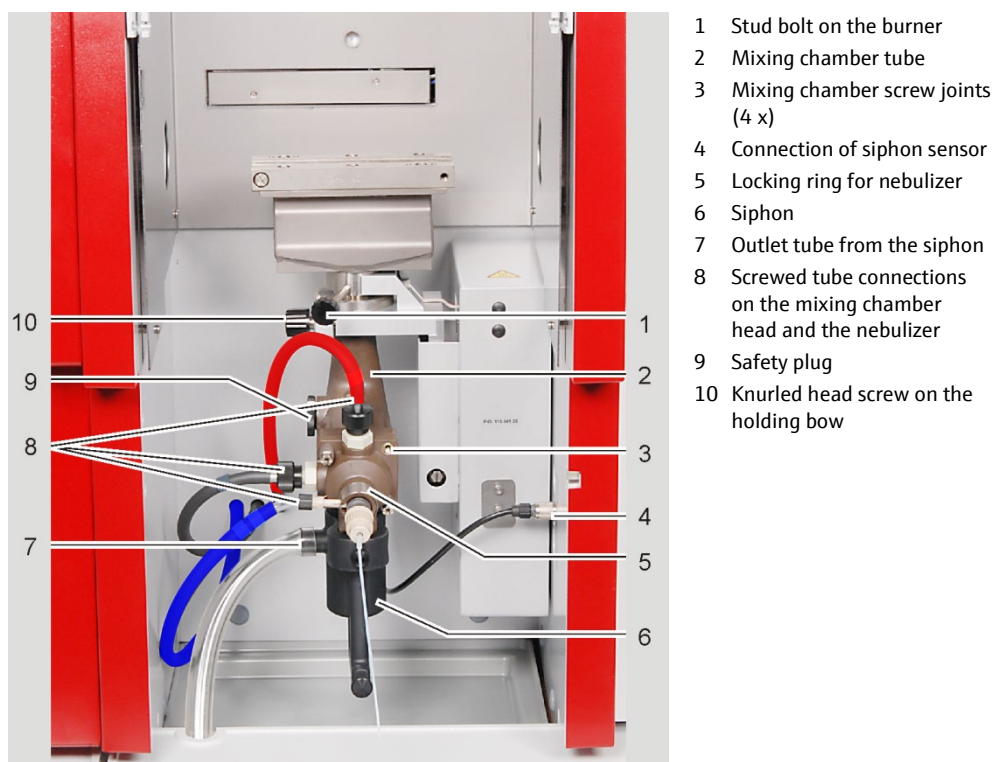

Fig. 58 Remove and disassemble the burner-nebulizer system I
1. Loosen the stud bolt (1 in Fig. 58 p. 89) on the burner and remove the burner from the connector.
2. Unscrew the screwed tube connections on the mixing chamber head and the nebulizer (8 in Fig. 58) and pull off the tube from the nebulizer connector.
3. Turn the locking ring of the nebulizer (5 in Fig. 58) to open the locking. Withdraw the nebulizer from the mixing chamber head, holding the nebulizer in the groove (Fig. 60).
4. Unscrew the connection of the siphon sensor (4 in Fig. 58) on the rotating arm and pull it off.
5. Pull off the outlet tube from the outlet connector of the siphon (7 in Fig. 58).
9. Hold the system tightly, loosen the knurled head screw on the holding bow of the mixing chamber tube (10 in Fig. 58), rotate the holding bow backwards and remove the system.
11. Loosen the four screw joints of the mixing chamber (3 in Fig. 58) and disassemble the mixing chamber into the chamber head and the chamber tube.
3. Stick the mixing chamber parts (chamber tube and chamber head) together, align the sides so that they are flush and screw (3 in Fig. 58 p. 89).
8. Fasten the mixing chamber nebulizer system at the height adjustment using the holding bow (10 in Fig. 58). The marking must be above the edge of the holding fixture. Screw the knurled head screw at the holding bow tightly.
9. Plug the cable of the siphon sensor (4 in Fig. 58) into the connection on the rotating arm (take care with the lug) and screw tight.
1. Remove the burner-nebulizer-system by loosening the knurled head screw on the holding bow (10 in Fig. 58).